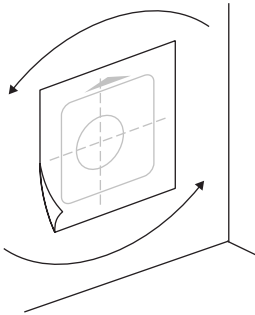
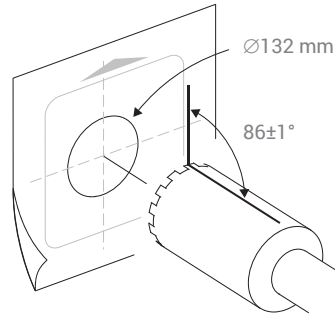

Figure 6.2.
Figure 6.3.
- Position the mounting template according to the selected type of device orientation (Figure 6.2). Place the mounting template on the wall and mark out the location for drilling the air duct²³. Drill the air duct according to the requirements shown in Figure 6.3. Use an industrial vacuum cleaner with a water catcher ring to prevent spoiling of the interior decoration.